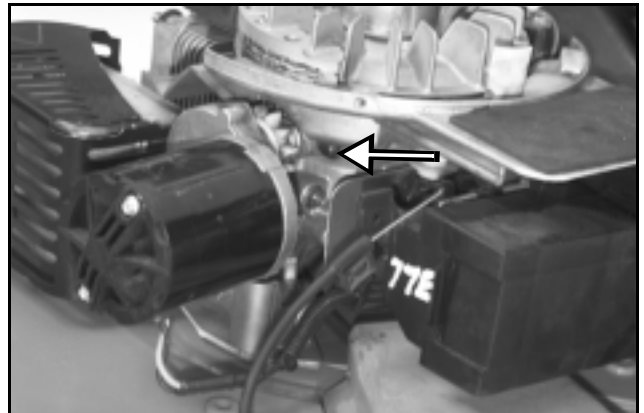

Figure 96
3. Loosen the Allen head bolt used to secure the starter pin with a 1/4" Allen wrench. (See Figure 96.) It may be necessary to remove the carburetor bolts and lower the carburetor to gain access the needed clearance for the Allen wrench.